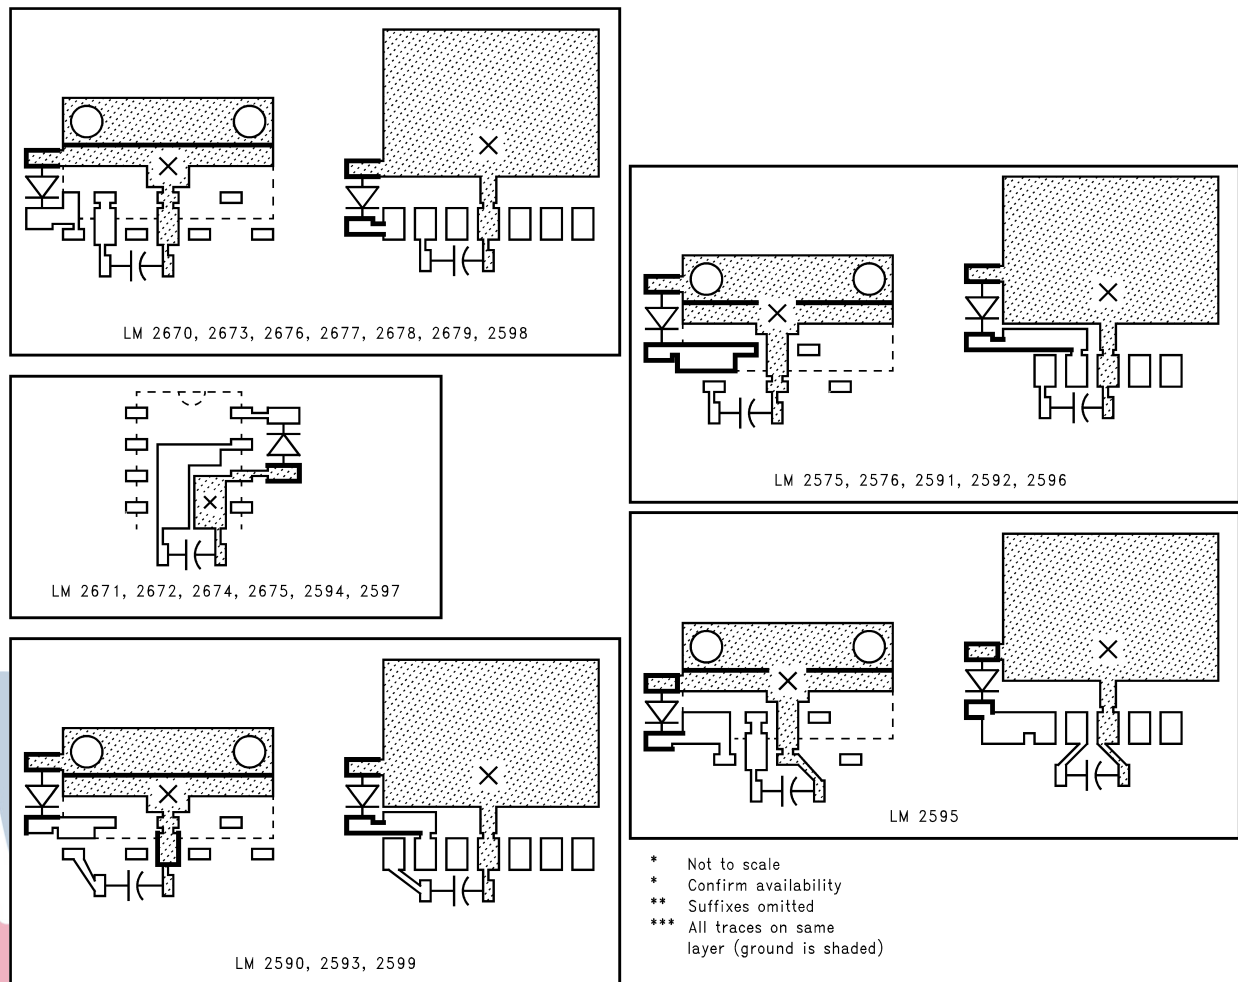

Figure 1. Recommended Layout Starting Points
The overall subject of PCB design is an extremely wide one, embracing several test/mechanical/production issues and also in some cases compliance/regulatory issues. There is also a certain amount of physics/electromagnetics involved, if a clearer understanding is sought. But the purpose of this application report is to reach the audience most likely to use it. Though there is enough design information for the more experienced designer/CAD person, the application report includes a quick-set of clear and concise basic rules that should be scrupulously followed to avoid a majority of problems. In particular, we have provided recommended starting points for layout when using the popular LM267x, LM259x and LM257x families (Figure 1). The focus is on the step-down (Buck) Simple Switcher ICs from Texas Instruments, but the same principles hold for any topology and switching power application.
1. Place the catch diode and input capacitor as shown in Figure 1.
2. For high-speed devices (for example, LM267x) do not omit placing input decoupling/bypass ceramic capacitor (0.1 μF –0.47 μF) as in Figure 1.
3. Connect vias to a Ground plane if available (optional, marked 'X' in Figure 1).
Remaining component placements can be taken up only after the input bypass capacitor and the catch diode are firmly in place and are both acap. The traces to either of these two components should be short, fairly wide, and should not go pass through any vias on the way to the IC. For SMT boards this implies that the input capacitor and catch diode are on the same layer as the IC. **In Figure 1 suggested PCB starting points are provided for several switchers.** All of them focus on placing these two critical components correctly. These layouts are strongly recommended for most applications. **The 'X' marks suggest the recommended location where vias can be used to connect to a Ground Plane (if present).** The remaining components can be placed relatively carelessly (though in doing so, there may be slight impact, for example on the accuracy of the output voltage rail and its ripple, but nothing compared to what can happen if the input decoupling cap and catch diode are incorrectly placed). Trace routing is now discussed in more detail.
The tab of the power packages of the Simple Switcher devices is fortunately at Ground potential, so having large copper planes around the tab will not produce EMI. The tab can be left floating, but if it is used, it must be physically connected directly to the GND pin of the IC as indicated in Figure 1. If a double-sided board is used, several small vias can be sunk right next to the IC Ground in positions marked 'X' on to a 'Ground plane' on the other side of the PCB. These vias therefore not only help in the correct electrical implementation of grounding, but also can serve as thermal shunts. They are therefore
With double-sided boards, it is a common practice to almost completely fill one side with ground. There are people who usually rightly so consider this a panacea or ‘silver bullet’ for most problems. As we have seen, every signal has a return, and as its harmonics get higher, the return ‘wants’ to be directly under the signal path, thus leading to field cancellation, and reduction of inductance. It also helps thermal management as it couples some of the heat produced by power devices on one side of the board to the other side. The Ground plane also capacitively links to noisy traces above it, causing some ‘softening’ of transients and thereby some reduction in noise/EMI ---**unless the cross-coupling is so severe as to start causing the Ground plane itself to radiate.** Vias can be sunk under the ground terminal of all power components in to the Ground plane, and this reduces DC resistance offset errors on the output voltage too for example. As mentioned, in Figure 1, ‘X’ marks have been placed to indicate that if there is a double sided board in use, and a Ground plane is present, then vias can be added at these points. They are optional, and so if a low cost single-sided board is preferred, they can be omitted. But if these vias are also doubling over as ‘thermal vias’ for the switcher IC, as when they are under the tab of an SMT power device, they should be sized appropriately as previously discussed.
However, a Ground plane should be an ‘add-on’ to the recommendations in Figure 1. It does not substitute the correct placement of the two critical components. Much effort should go into not breaking or partitioning this plane. Further, in general, if too much switching power flow occurs through such a plane, it can create ‘ground bounce’ and cause controller upsets. Therefore in higher power applications, with the added luxury of multi-layer PCBs, separate signal and power ground planes are used. But for the lower power SIMPLE SWITCHER family, a single Ground plane is all that may be required. And if the layout is carried out conscientiously, keeping all the recommendations in mind, even a single-sided board should suffice.